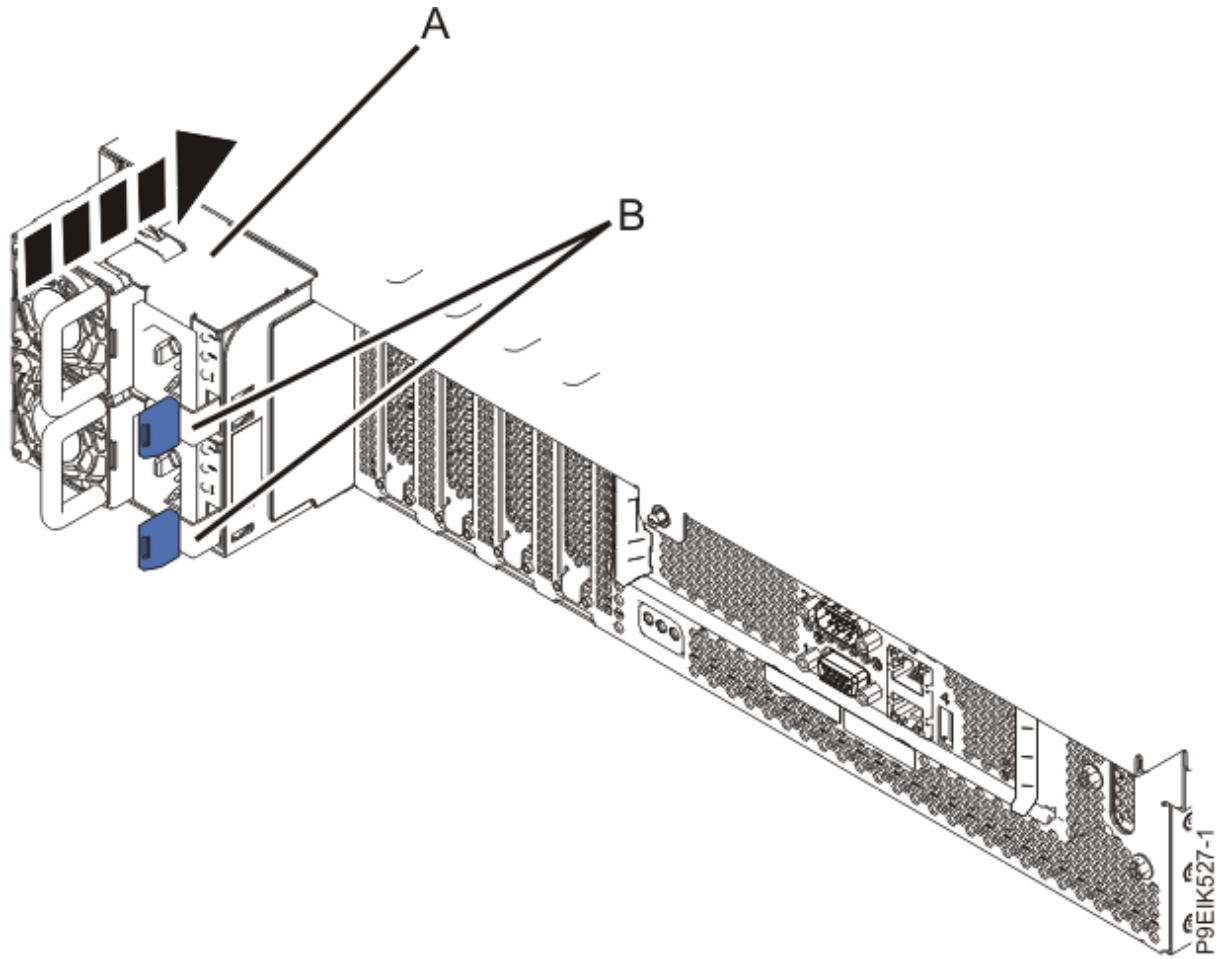

Figure 172. Replacing the power supplies in the system
6. Replace the power supplies as shown in Figure 172 on page 189.